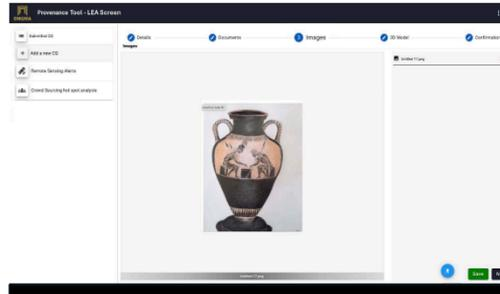

Figure 7: Upload pictures screen.
4. Now in the “Upload documents and photos” step, *Figure 7*, locate the upload section on the right-hand side of the screen. Then, click the “Upload” button to select the pictures of the object.